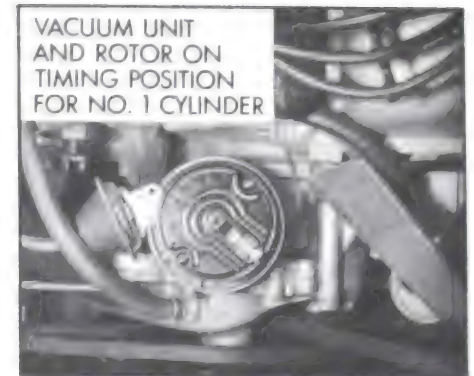

Figure 10-44—Installing Distributor in 300 Engine
2. Install distributor in engine with rotor in position to fire No. 1 cylinder and with vacuum control in position to connect vacuum hose. See Figure 10-44 or 10-45. Install distributor clamp and bolt with lock washer, leaving bolt just loose enough to permit movement of distributor with heavy hand pressure. **NOTE:** If distributor does not seat in engine block, press down lightly on distributor
2. Make a mark on distributor base in line with center of rotor. Then carefully note the direction the vacuum unit points in relation to the engine so that the distributor can be replaced in the exact same position after it is serviced. See Figure 10-44 or 10-45.